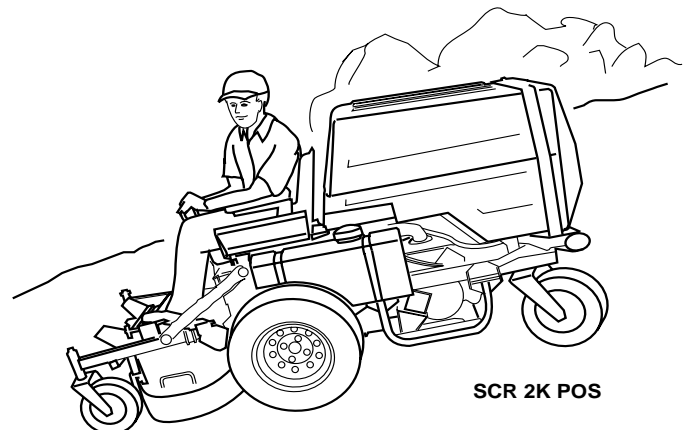

Figure 4-6 Proper Operation on a Slope
2. Engage the deck drive by pushing the Cutter Deck Control Lever forward, (Figure 4-6) to the engage position.
4. Always travel up or down the slope, whenever possible; NEVER across the slope. (See Figures 4-6 and 4-7.)